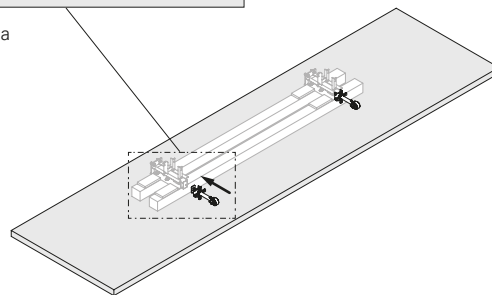
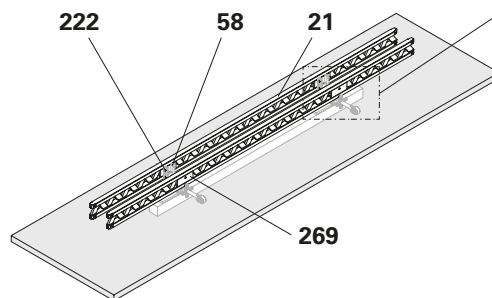

Fig. B9.02
Fig. B9.03
2. Slide the base end of the Supporting Spindle ACS (59) into the Platform Beam 870-1170 ACS (58) and screw it to the front side of the Platform Beam 870-1170 ACS (58) with the fixing materials supplied. (Fig. B9.02 + B9.02a)
3. Place the Formwork Girder GT 24 (21) on the Platform Beam 870-1170 ACS (58) as a girder and position it.
4. Pre-drill the Formwork Girder GT 24 (21) with  $\varnothing 9$  mm holes and screw it to the Platform Beam 870-1170 ACS (58) with F.H. Bolts DIN 603 M8 x 100 MU (222). (Fig. B9.03)